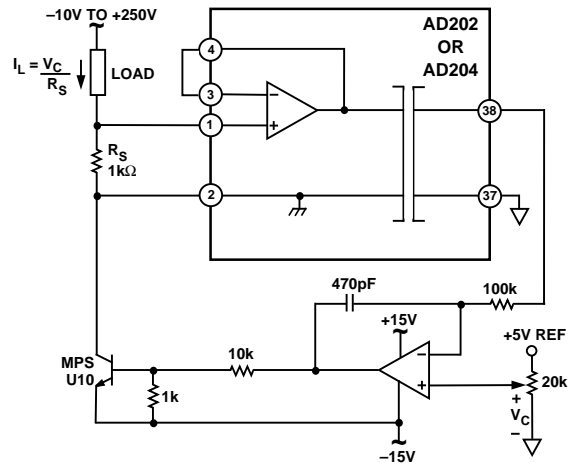

Figure 19. High-Compliance Current Source
**High-Compliance Current Source.** In Figure 19, an isolator is used to sense the voltage across current-sensing resistor R to allow direct feedback control of a high-voltage transistor or FET used as a high-compliance current source. Since the isolator has virtually no response to dc common-mode voltage, the closed-loop current source has a static output resistance greater than  $10^{14} \Omega$  even for output currents of several mA. The output current capability of the circuit is limited only by power dissipation in the source transistor.